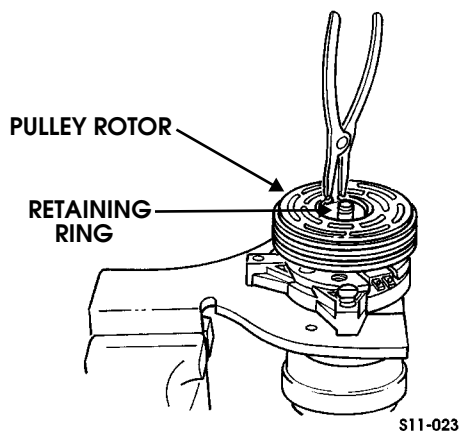

Figure 11-60: Retaining Ring
9. Using snapping pliers, install retaining ring (Figure 11-60).